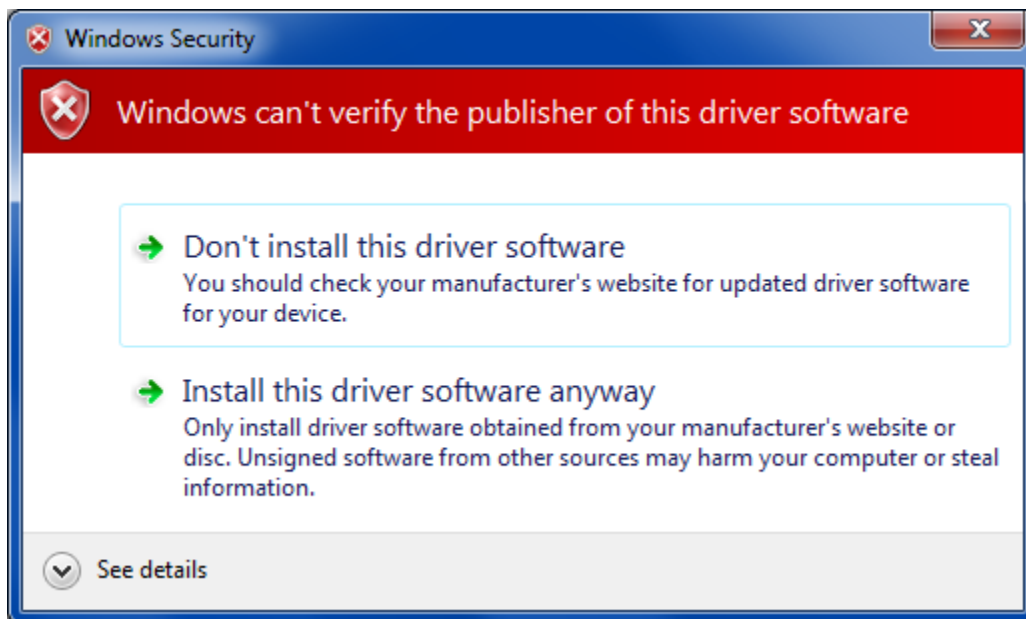

Figure 11. Windows Publisher Verification Warning
5. There may be a warning that Windows can't verify the publisher of this driver software, as shown in Figure 11. Choose to install the driver software anyway to proceed.